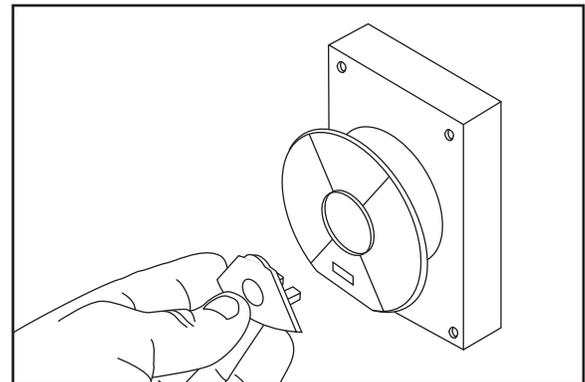

Figure 36. Example of removing disabling key from paddle switch.
4. Remove switch disabling key, as shown in **Figure 36**.